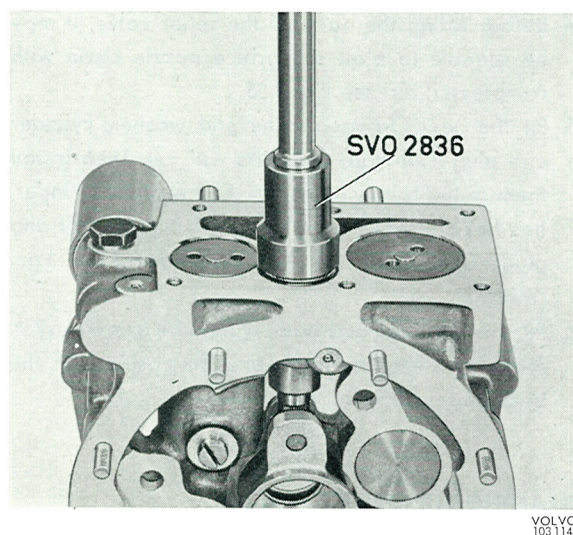

Fig. 4-54. Removing the plug
2. Remove the plug under the relief valve with tool SVO 2836, see Fig. 4-54. Pull out the large piston of the relief valve, then the spring and spring